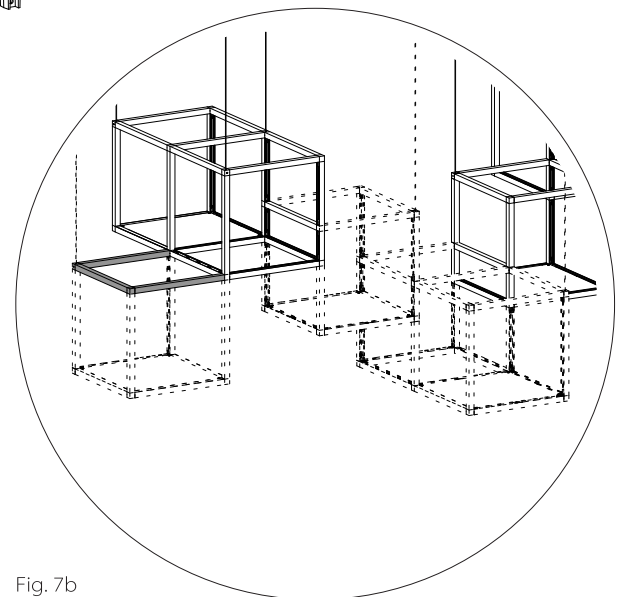

Fig. 7b
- 5c. Section as part of whole assembly shown in Fig. 7b.